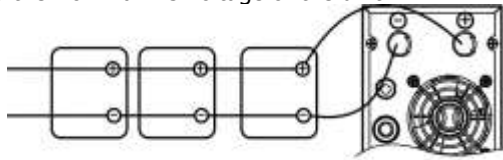

Fig 3
3) Multiple batteries in parallel connection (Refer to Fig. 3): Each battery's voltage must be equal to the Nominal DC Voltage of the unit.